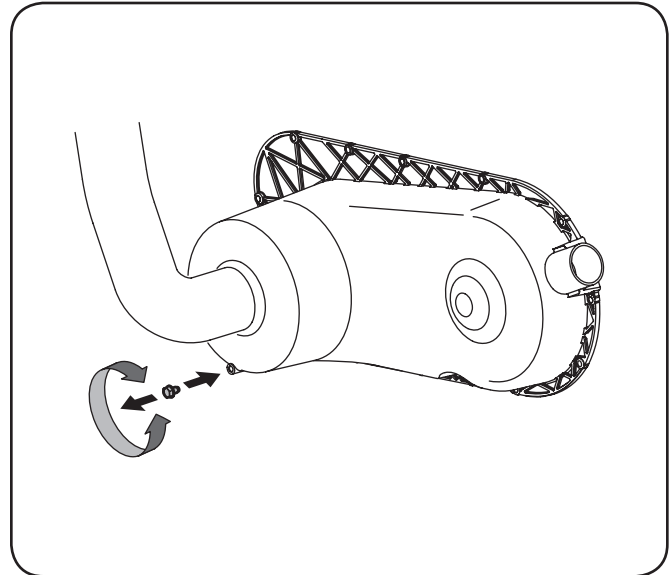

Figure 6-6
1. Remove CVT cover drain plug. See Fig. 6-6.